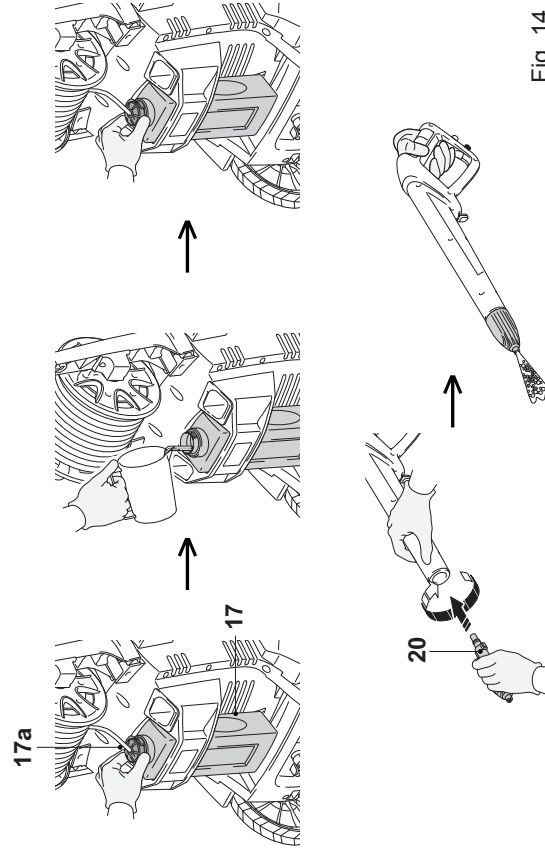

Fig. 14
1. Remove the cap (17a) from detergent tank (17) on the back of the product.
2. Add detergent to the tank (17) and attach the cap to the tank.
3. Securely fit the detergent spray nozzle (20) into the port connection (16a) of spray gun (16) by turning it clockwise to lock it in place (Fig. 14).